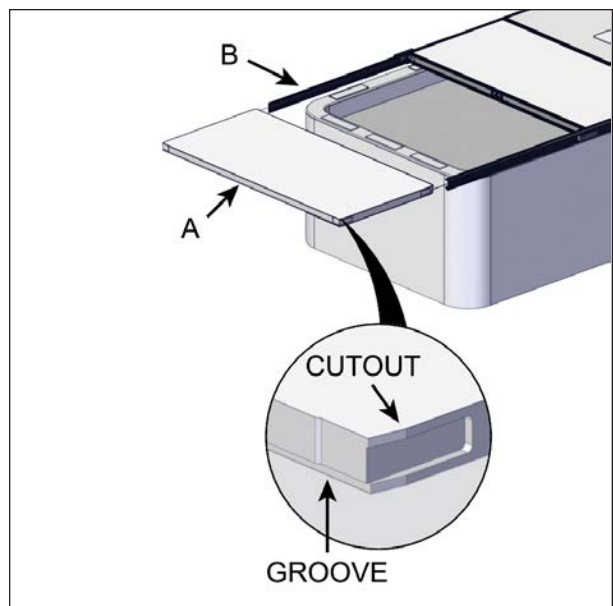

FIGURE 39: EXTRA PANEL INSTALLATION FOR 16' TO 20' LONG SPA MODELS
- Slide in one of the remaining extra panels into the C-channels, see Figure 39.
Make sure the panel side with the cut out shown in Figure 39 is pointing outward.